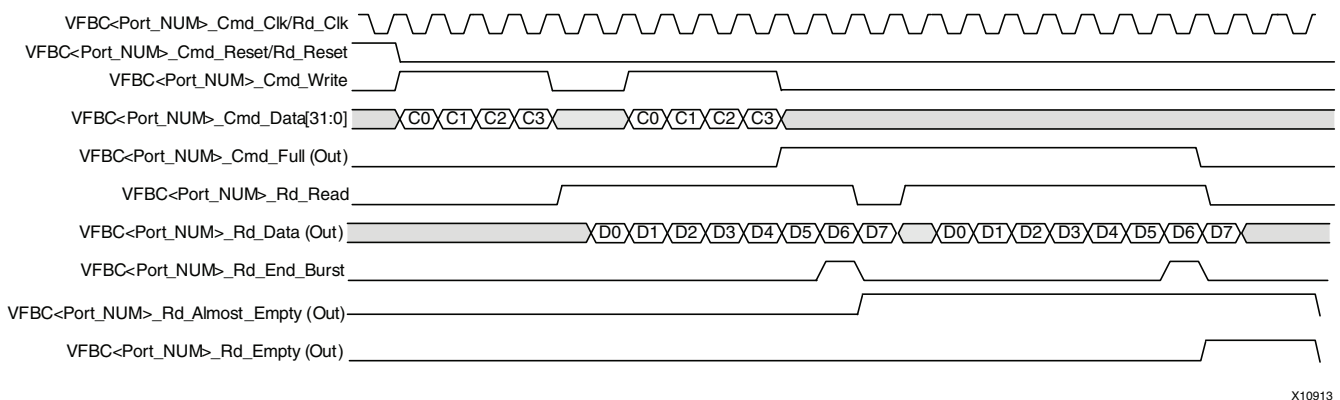

Figure 41: VFBC Read Timing
Figure 41 shows a typical Read operation. Notes on the operation are listed after the figure.
- Figure 41 shows one cycle between VFBC<Port\_Num>\_Rd\_End\_Burst and the next burst; although, zero to any number of cycles can exist between Read transactions.